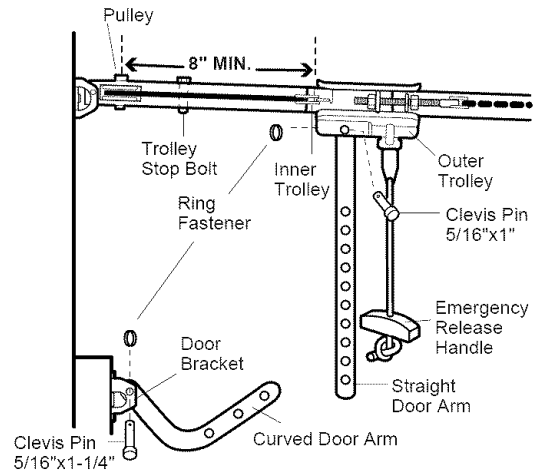

Figure 1
- Make sure garage door is fully closed. Pull the emergency release handle to disconnect the outer trolley from the inner trolley. Slide the outer trolley back (away from the pulley) for 8" minimum as shown in Figures 1, 2 and 3.
• **Figure 1:**